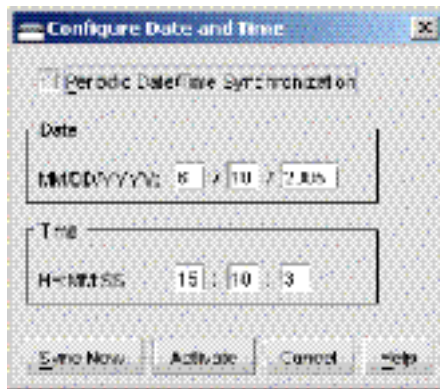

Figure 2-27 Configure Date and Time Dialog Box
1. Select *Date/Time* from the *Configure* menu (*Configure>Date/Time*). The *Configure Date and Time* dialog box appears (Figure 2-27).